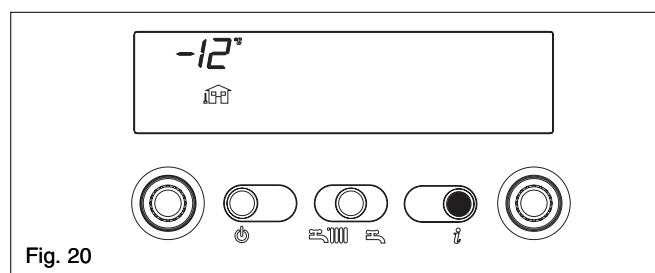

Fig. 20
- Info 1** outside temperature (only if outside sensor connected) (fig. 20)